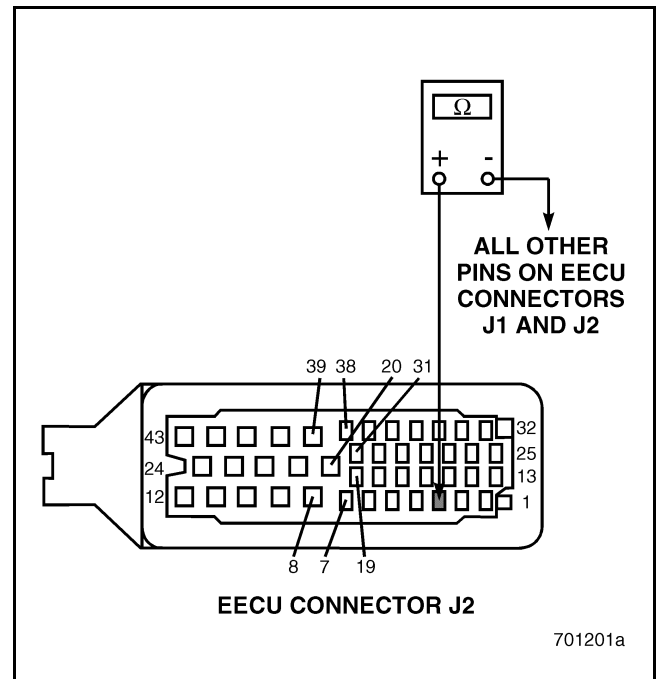

Figure 104
4. Check for continuity between EECU connector J2 pin 3 and all other pins on EECU connectors J1 and J2 (see Figure 104).